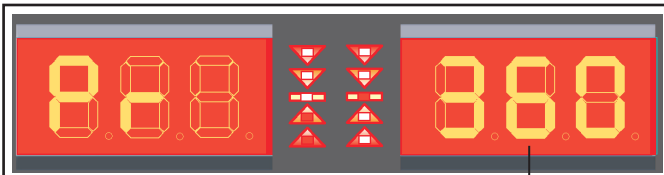

Fig. 42 PAX wheel dimension: you can select: 360, 420, 460 or 700
- Press key  repeatedly to select the type of PAX correction (see Par. 14.4). Then press key . The selection of PAX wheel size will be displayed on the dimensions display screens (see **Fig. 42**).